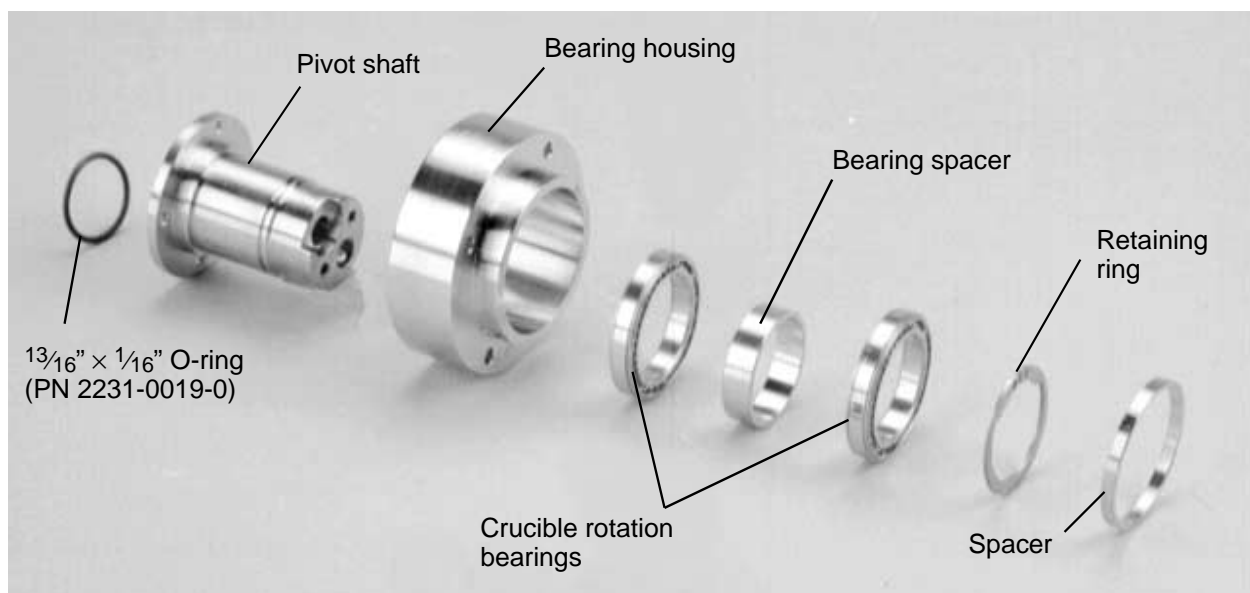

Figure 5-23. Parts layout of the bearing housing assembly
Step 3: Remove the pivot shaft, upper and lower bearings, and bearing spacer from the bearing housing. Figure 5-23 shows these parts laid out in order of reassembly.
Step 1: Put the pivot shaft in place inside the bearing housing, making sure that they both face the correct way, as shown in Figure 5-23.